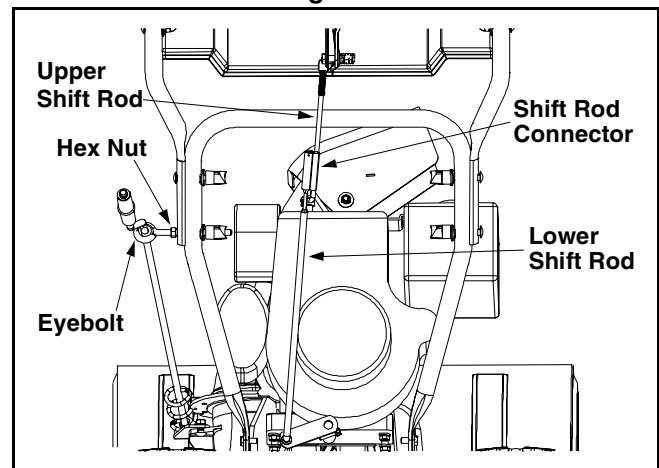

Figure 2
- Retighten the wing nut to secure the chute directional control in this position. See Figure 2.